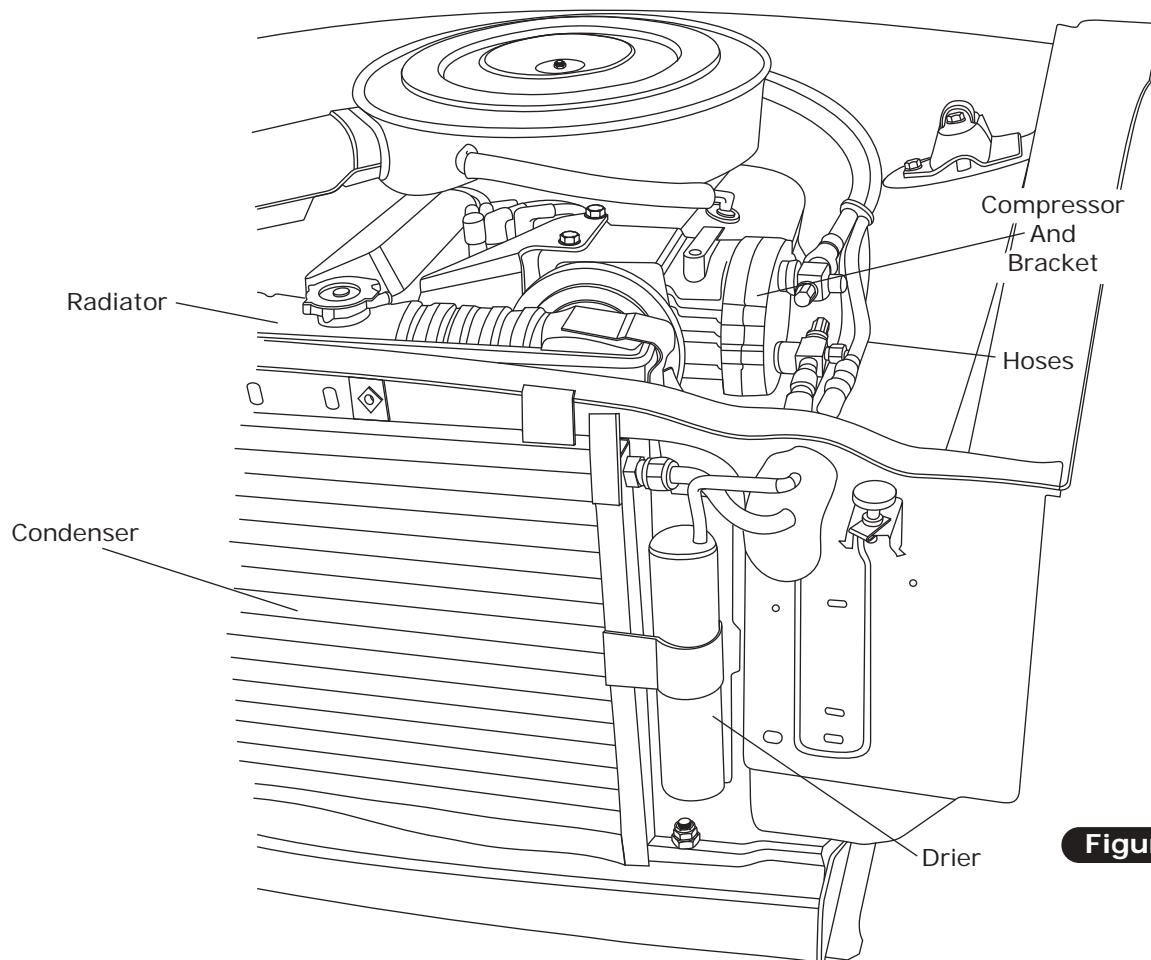

Figure 1
4. Remove the OEM condenser and drier (discard) (See Figure 1, below).
5. Remove the OEM compressor and bracket (discard) (See Figure 1, below).
6. Remove the OEM heater hoses and A/C hoses (discard) (See Figure 1, below).